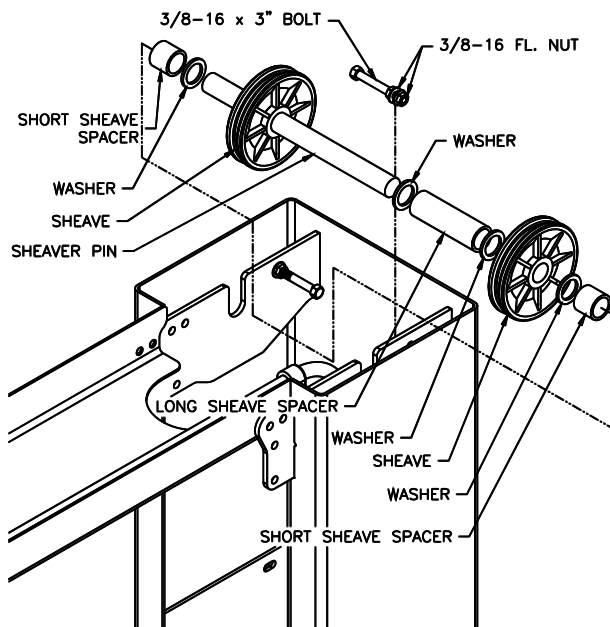

Fig 5 – Sheave Assembly
17) Assemble the sheaves and spacers onto the sheave pin as shown in **Fig 5**. Set in cradle with all assembly parts between the two plates.